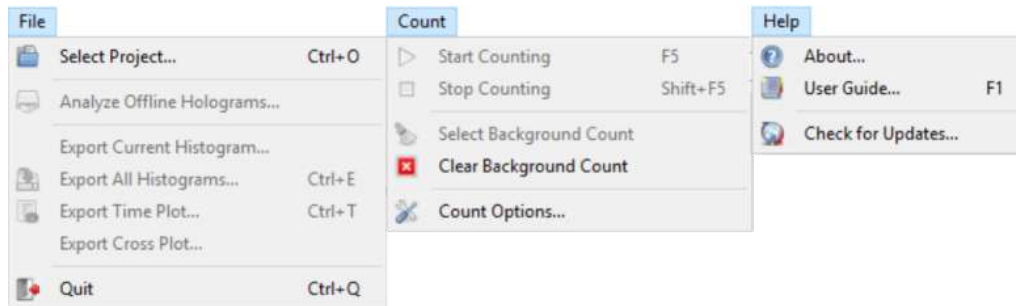

Figure 4: Main menu, showing the options under each heading
For ease of use, the details of each Section listed above will be guided with Figures of both the Main Menu (Figure 4). The following sections briefly introduce the Home Screen of Swordfish to give users a quick overview of its layout.
Most of the Settings and functionality of Swordfish is located in the **Main Menu** (see Figure 4). The following gives a brief explanation of each option in the Main Menu (for more details regarding these options, see the Sections referenced).
- For the Desktop, select the Preset Option for the Desktop: Count-> Count Options-> Optical Path ->Preset (see Main Menu Figure 4 for location). To create a custom preset, press the **Add preset (+)** button, and give the new preset a name. Any modifications to the preset will be stored when **OK** button is pressed. To delete a custom preset, press the **Remove preset (-)** button. The pixel size and laser wavelength settings should not need to be changed unless you are using a third-party microscope.